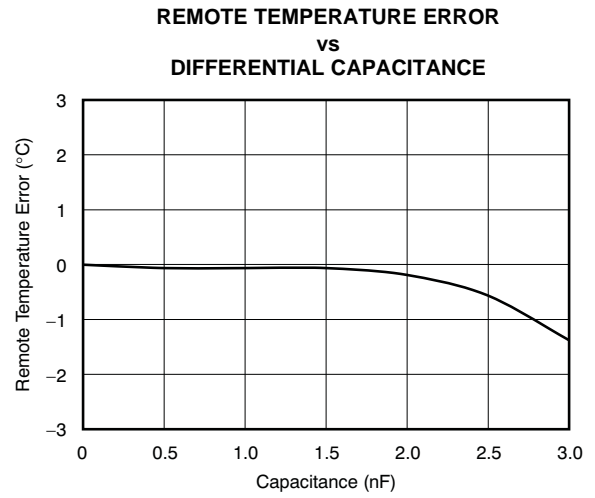

Figure 6.
(1) Diode-connected configuration provides better settling time. Transistor-connected configuration provides better series resistance cancellation.
(2) R_S (optional) should be $< 1.5\text{k}\Omega$ in most applications. Selection of R_S depends on application; see the Filtering section.
(3) C_{DIFF} (optional) should be $< 1000\text{pF}$ in most applications. Selection of C_{DIFF} depends on application; see the Filtering section and Figure 6, Remote Temperature Error vs Differential Capacitance.
(4) TMP422 SMBus slave address is $1001\ 100$ when connected as shown.
The TMP422 tolerates differential input capacitance of up to 1000pF with minimal change in temperature error. The effect of capacitance on sensed remote temperature error is illustrated in Figure 6, *Remote Temperature Error vs Differential Capacitance*.